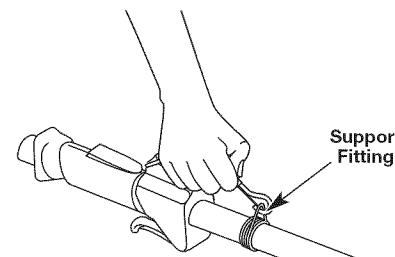

Fig. 11
3. Put the harness on over head and onto shoulder. Snap it on to the support fitting (Fig. 11).